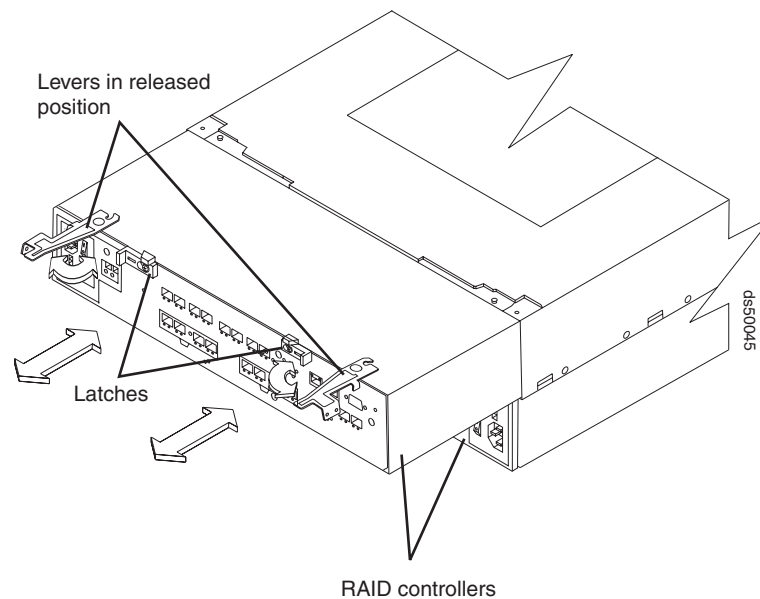

Figure 101. Removing the controller from the storage subsystem
- b. Use the levers to slide the controller from the storage subsystem chassis. (Figure 101 shows a controller sliding from the storage subsystem chassis.)